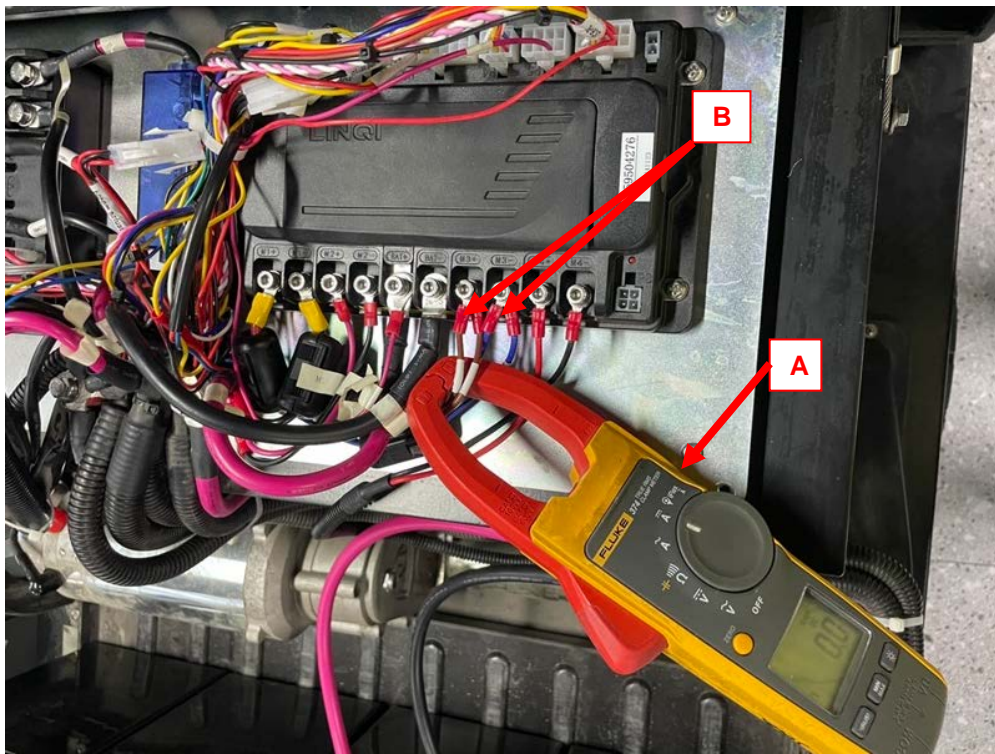

Figure 59
2. Apply amp clamp (A, Figure 59) to one of the side broom motor wires (B, Figure 59).